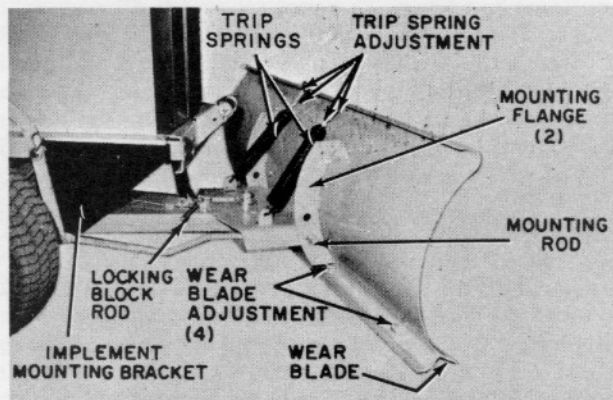
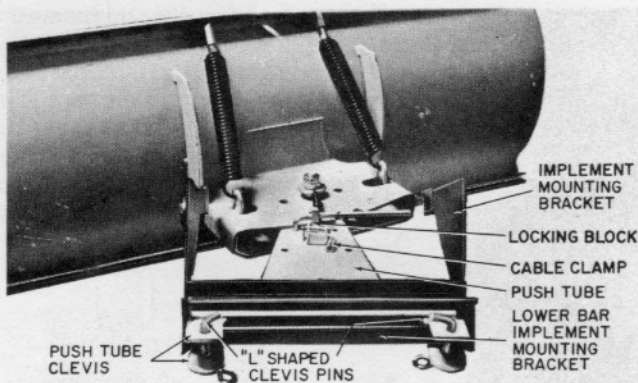

Figure 2
Figure 3
1. Engage the lower bar of the implement mounting bracket with the open end of each clevis on the blade push tube. Secure with L-shaped clevis pins and hair pin cotters. See Figure 3. Note in Figure 2 that the mounting rod fits in the lower holes of the blade mounting flanges.
4. While holding the locking block rod to the rear, place the wire portion of the cable in the slot of the cable clamp and slowly release the locking block rod until the sheath of the cable engages the cable clamp. See Figures 2 and 3.